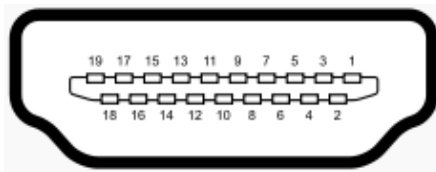

Figure 3-27: External HDMI Connector Location
- CN Location:** See **Figure 3-27**